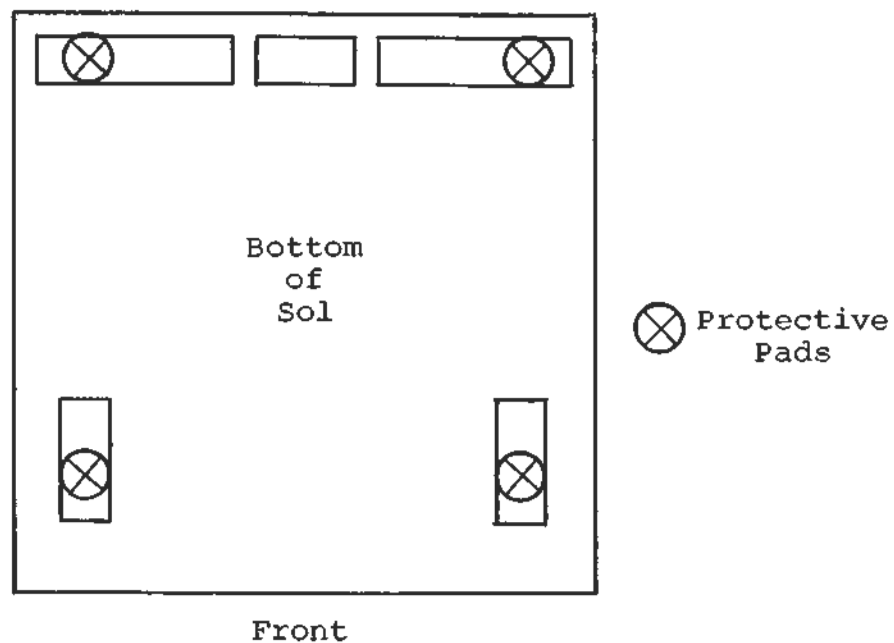

Figure 6-8. Protective foot pad installation.
- () Step 46. Affix self-stick protective pads to bottom of Sol as shown in Figure 6-8.